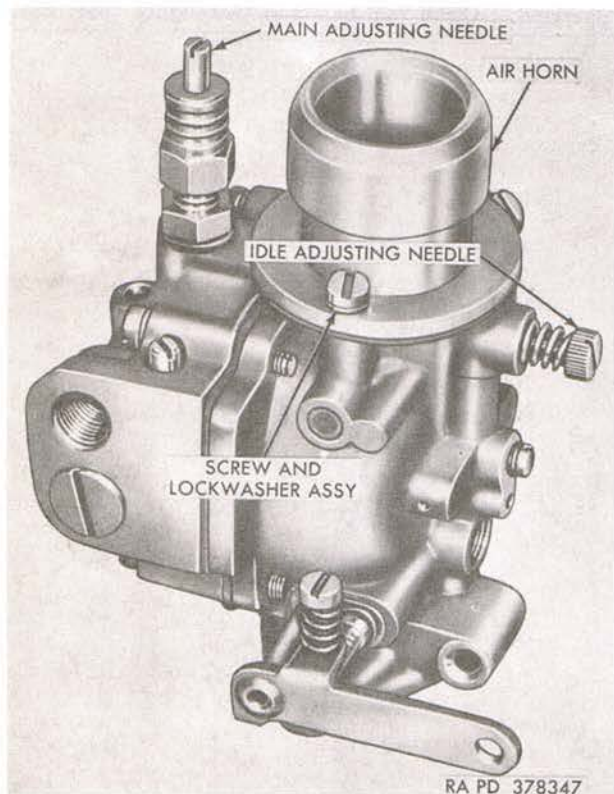
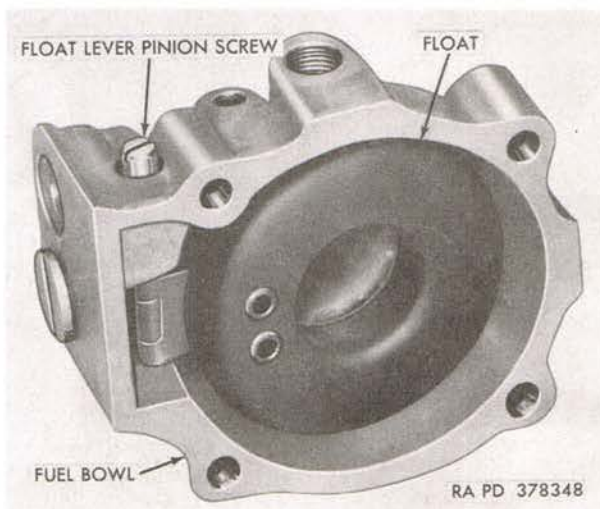

Figure 2. Air horn and adjusting needles.
Figure 3. Fuel bowl and float.
14. Remove Air Horn (fig. 2)
a. Remove Main Adjusting Needle. Remove main adjusting needle plug screw (KK) and gasket (JJ) from packing nut (HH) and discard gasket. Remove main adjusting needle (GG, and fig. 2) from packing nut. Remove packing nut from main adjusting needle gland (EE) and remove and discard packing (FF). Remove gland and gland gasket (LL) from fuel bowl (Z). Discard gasket.
b. Remove Fuel Bowl. Remove four screw and lockwasher assemblies (AA) securing the fuel bowl (Z) to the body (Q) and remove bowl. Remove and discard fuel bowl gasket (U).
Remove float lever pinion screw (MM, and fig. 3) securing the float (X) in the fuel bowl (Z) and remove float.